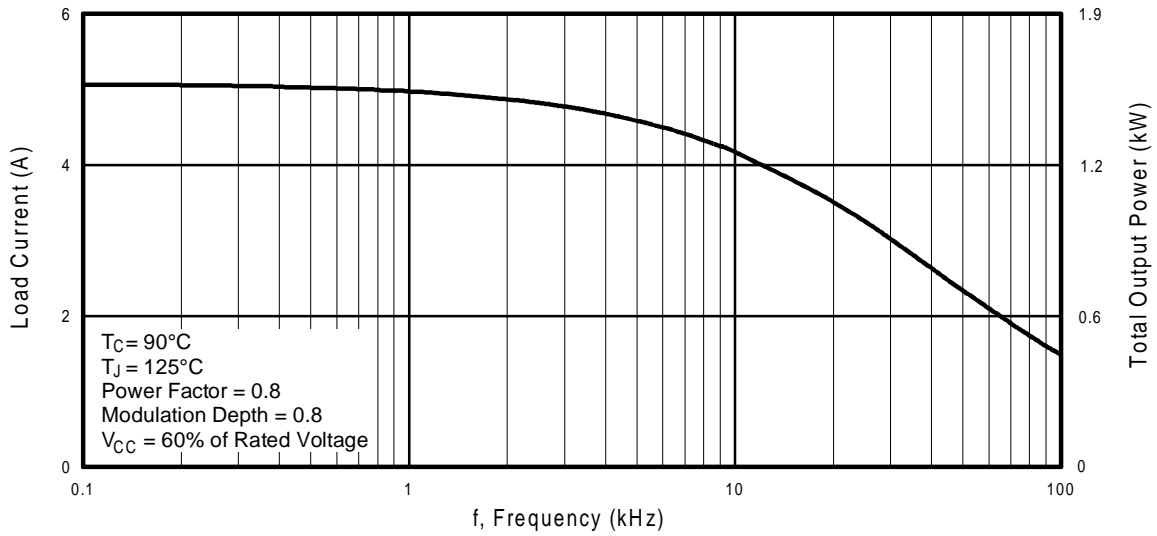

Fig. 1 - RMS Current and Output Power, Synthesized Sine Wave
- See Fig. 1 for Current vs. Frequency curve
3.5 A_{RMS} per phase (1.1 kW total) with T_C = 90°C, T_J = 125°C, Supply Voltage 360Vdc, Power Factor 0.8, Modulation Depth 80% (See Figure 1)